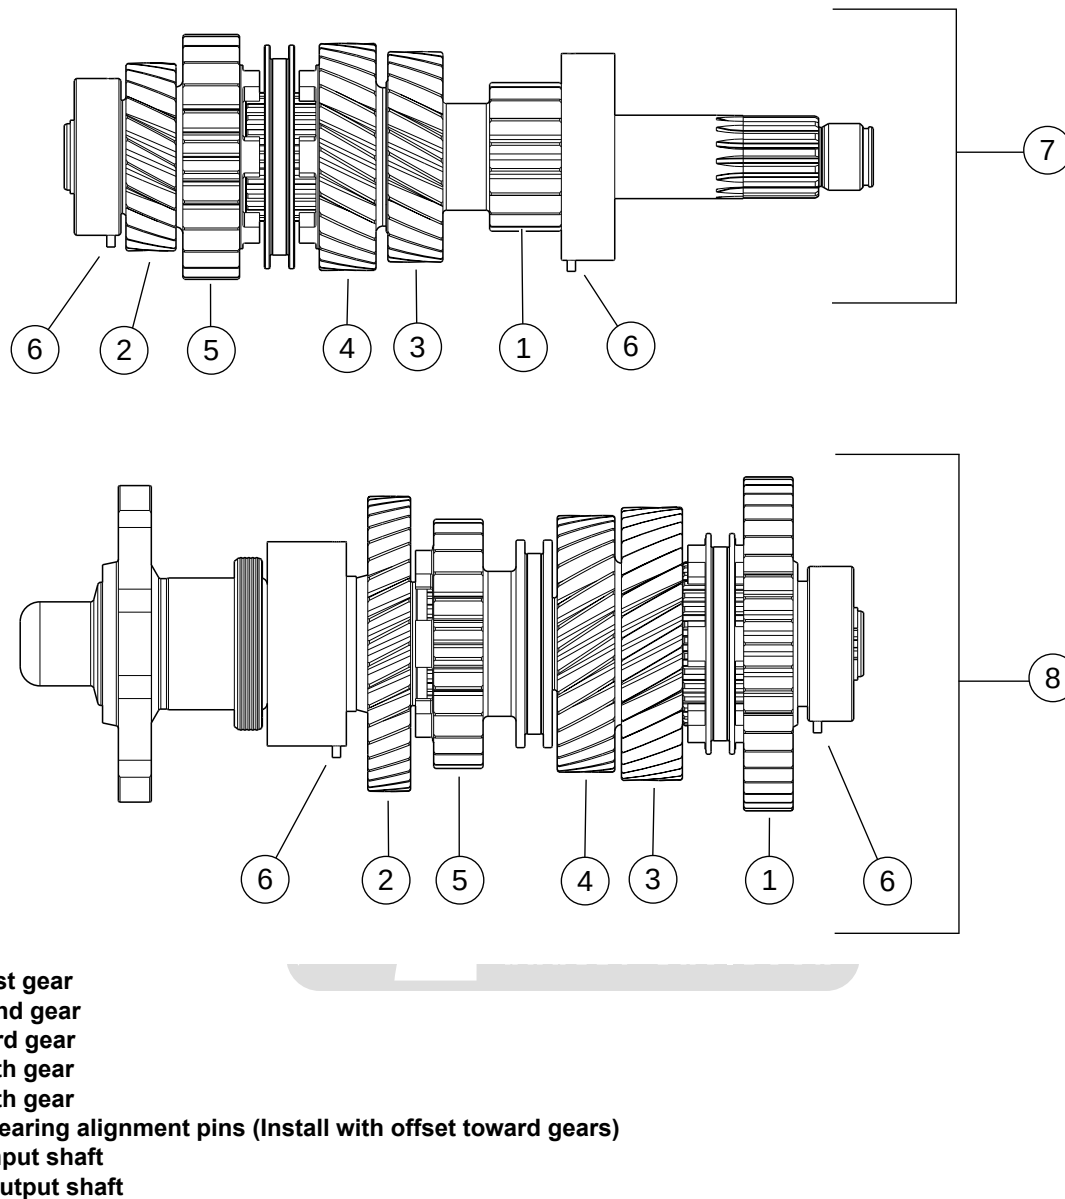

Figure 6-104. Transmission Input Shaft and Output Shaft Assemblies
4. See Figure 6-104. Remove stepped washer and 1st gear (1).